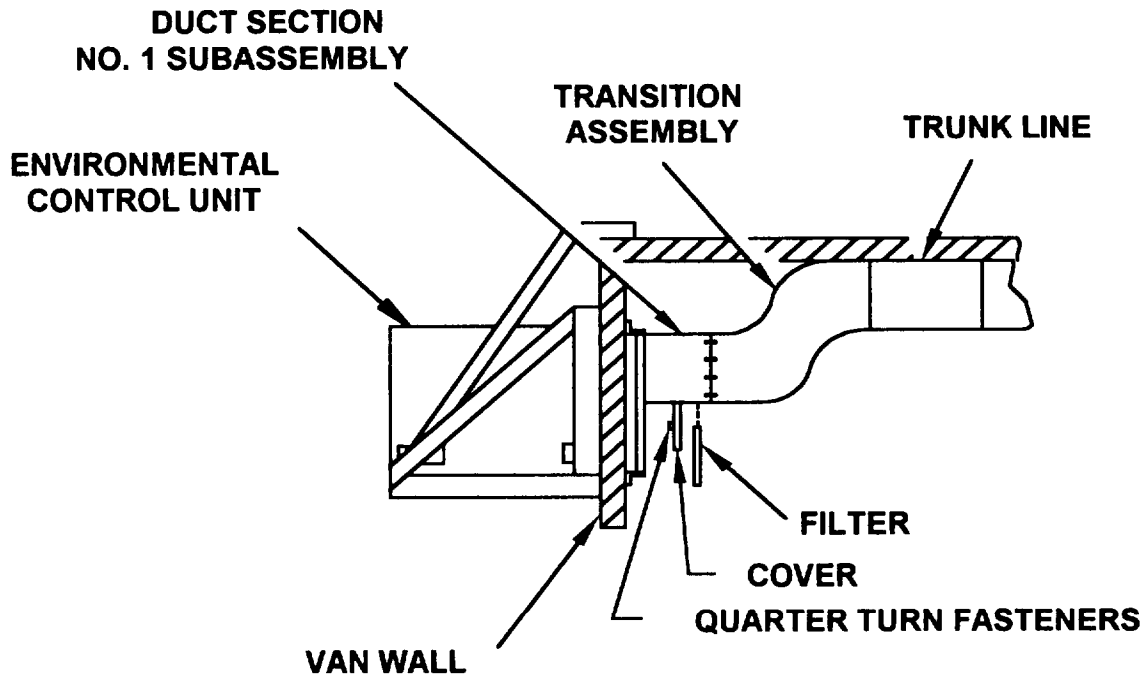

Figure F-6. ECU Filter location (AN/ASM-189 and AN/ASM-190).
**F-12. Removal and Replacement of ECU Filters** (fig. F-6)